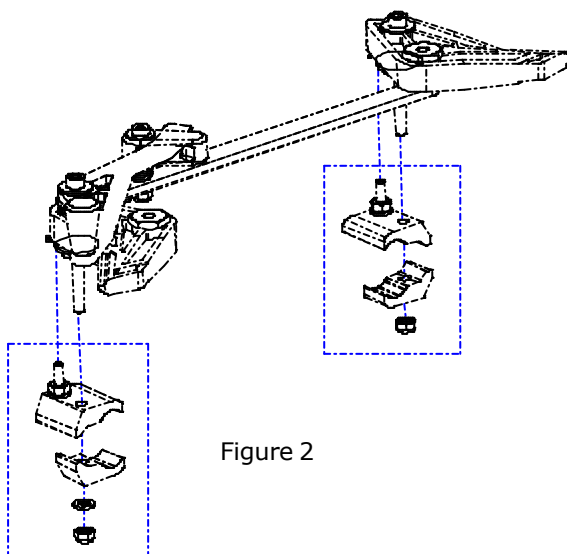

Figure 2
3. Change the side for these details as shown in Figure 2.